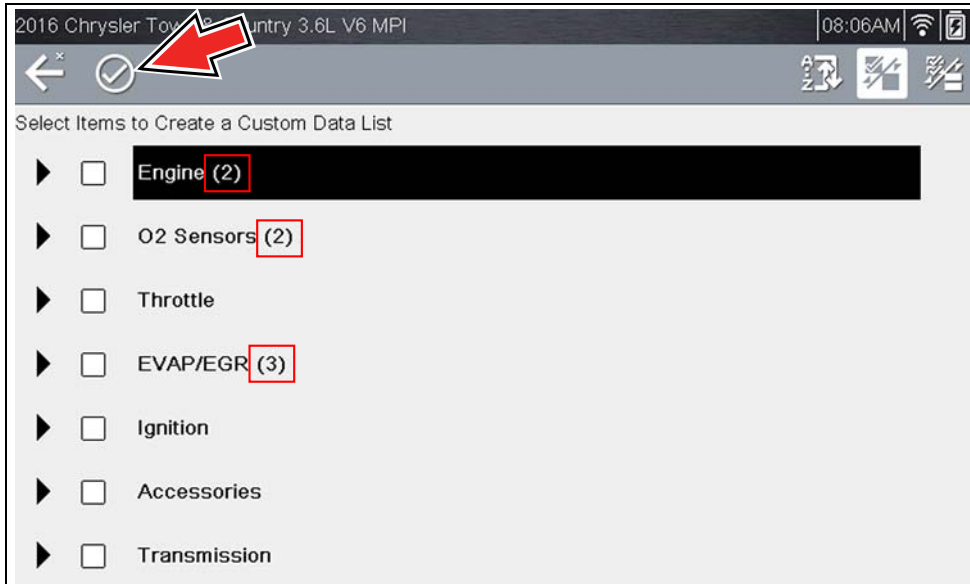

Figure 5-18
3. Once you have selected all the PIDs you need (Figure 5-18), to view the custom list, select the **Accept** icon (Figure 5-18).